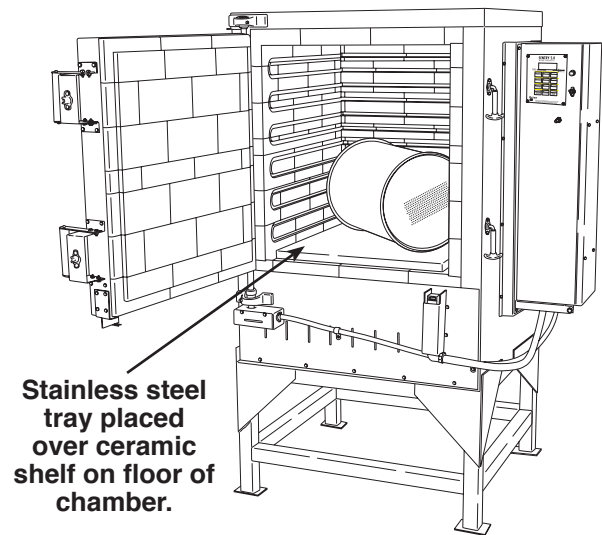

Figure 4
3. Position the ceramic shelf on the floor of the unit, and place the stainless steel tray over the ceramic shelf. See Figure 4.